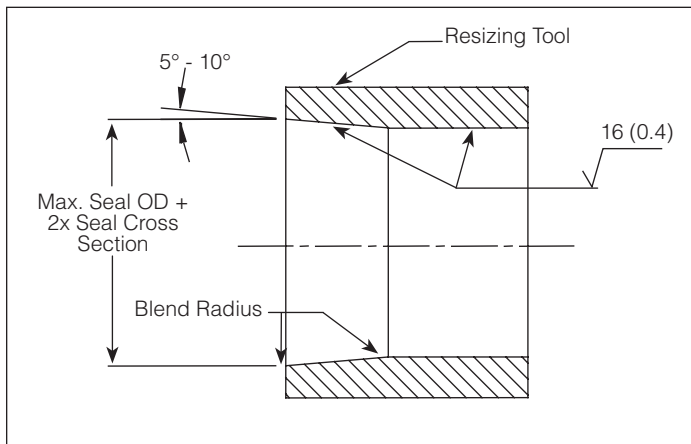

Figure 2-19. Resizing tool
6. For PTFE cap seals, slide the resizing tool over the seal to compress the seal to its original diameter (Figures 2-19, 2-20).